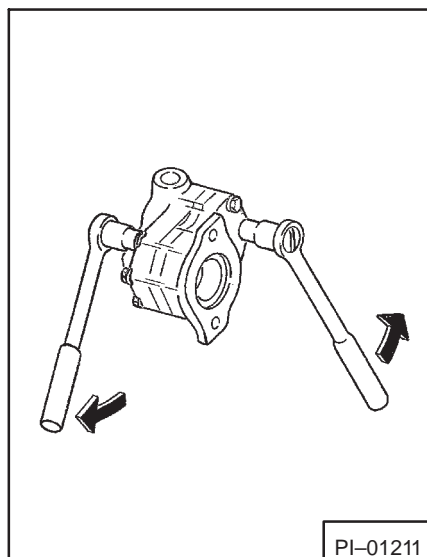

Fig. 4-30 Remove Body Bolts
5. Remove all bolts from pump body (Fig. 4-30).